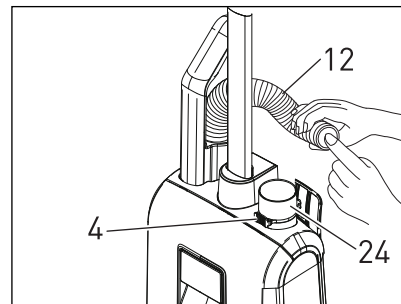

Figure 14
## Clogs in the Attachment Hose - Figure 14
Remove attachment hose (12) from vacuum cleaner (see figure 14) and remove front cover (7). Clean out connecting tube (24) and/or entrance to bag (40).